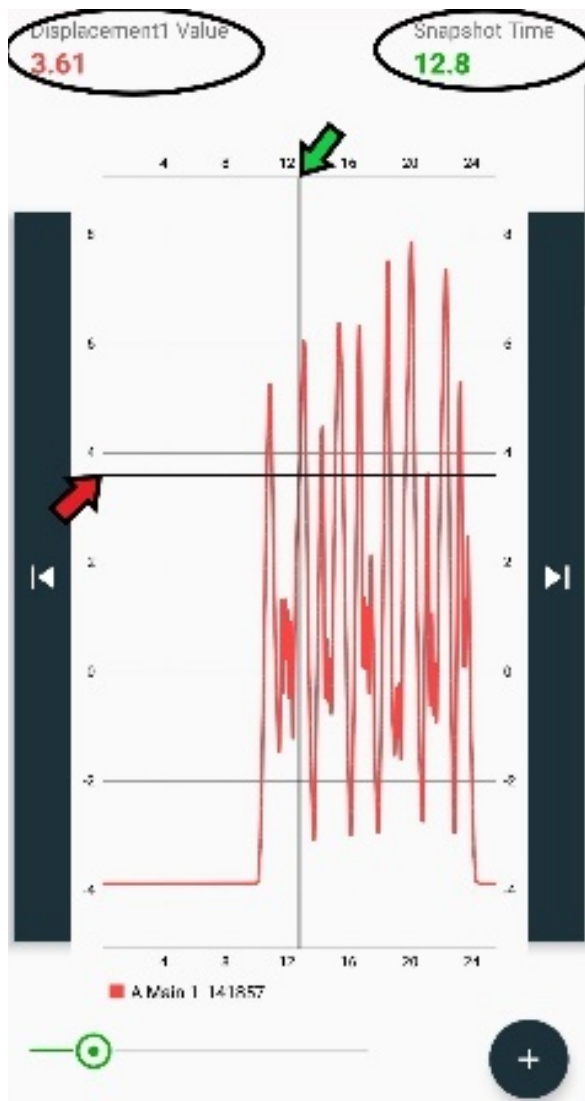

Figure 31: Cursor in displacement chart and resulting values
5. The chart shows the value of time in the X-axis (horizontal) and the shock measurement value in the Y-axis (vertical). The chart area can be touched with fingers and can perform tasks such as finding a certain value of displacement at a certain time by placing a cursor over that point, an example is in Figure 31.